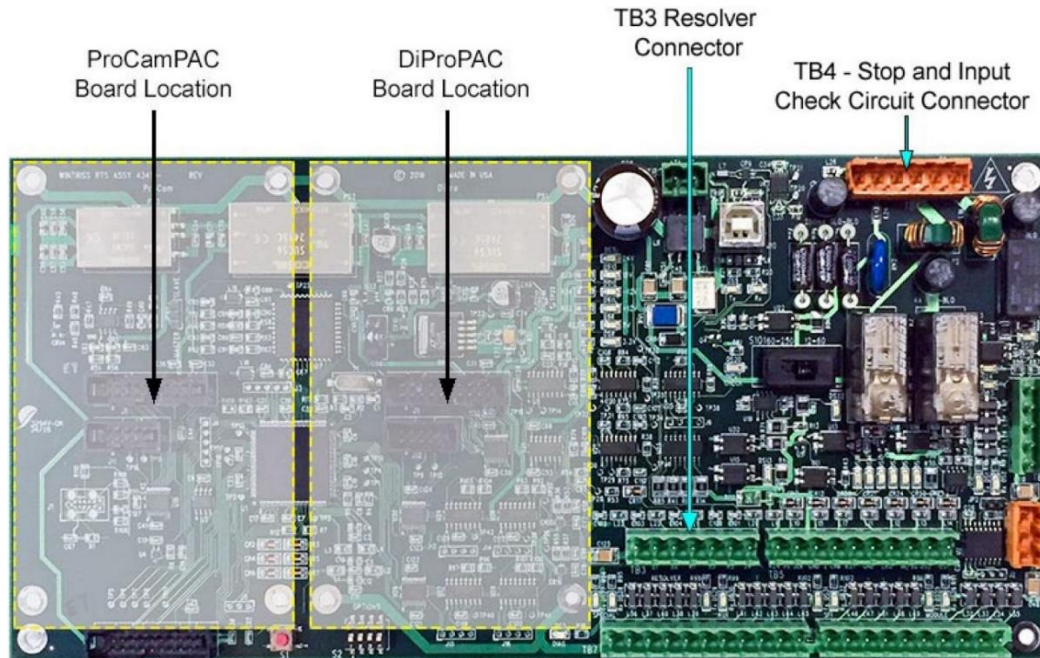

Figure 2-11. SmartPAC PRO Main (RTS) Board Showing Location of Option Module Boards, and TB3 and TB4
2. Locate connector TB4 on the SmartPAC PRO board (see Figure 2-11, page 33) and unplug it from its socket. Connect the wires for the stop and input check circuits to TB4 pin locations, as shown in Table 2-3 and wiring diagram Figure 4 at the end of the manual.
Install these boards in the locations shown in Figure 2-11, below. If you install a board in the wrong location, SmartPAC PRO will not recognize that the option is installed.
3. On the SmartPAC PRO board, locate the connector in which the new board should be installed (see Figure 2-11).